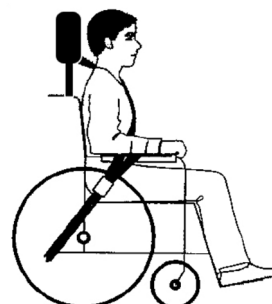

Fig. 7
7. A headrest suitable for transportation should, where possible, be fitted and suitably positioned at all times during transportation (Fig. 7). But a headrest is not an obligation as many wheelchairs don't have a headrest at all.
6. Suitable headrests (recommended) should be positioned correctly (Fig. 7).